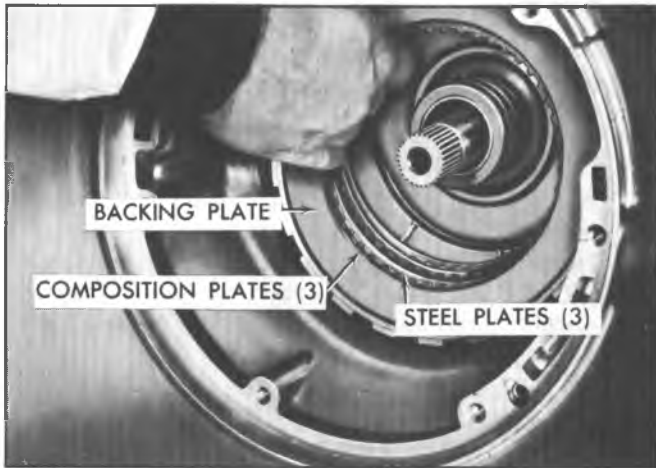

Fig. 16B—Installing Intermediate Backing Plate and Clutch Plates
- a. (All models except CL and CZ) Lubricate with transmission oil two (2) flat steel and one (1) waved steel plates and three (3) composition-faced intermediate clutch plates and install, starting with waved steel plate and alternating composition-faced and flat steel plates (fig. 16B).
- b. (Models CL and CZ) Lubricate with transmission oil three (3) flat steel and three (3) composition-faced intermediate clutch plates and install, starting with flat steel and alternating composition-faced and flat steel plates (Fig. 16B).